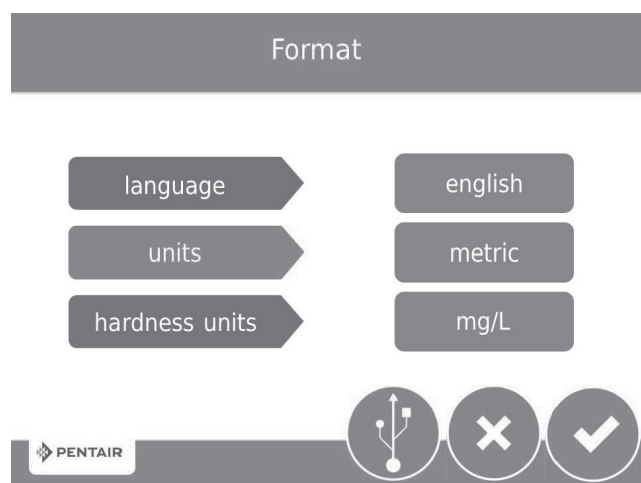

Figure 9
1. After plugging in the unit, the Format screen (Figure 9) is displayed.